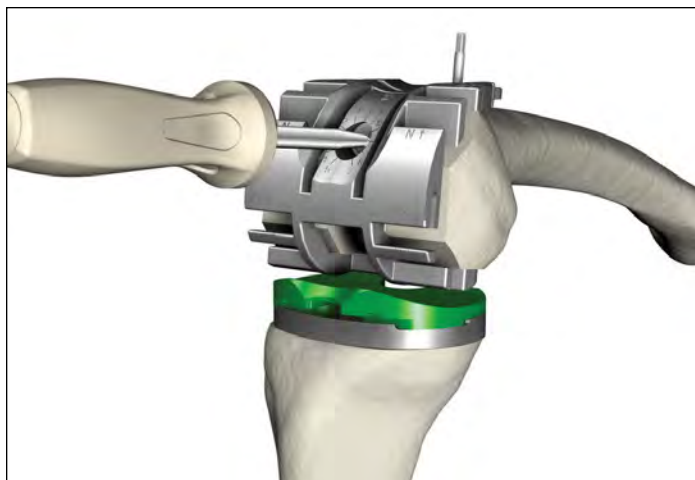

Figure 61
- To adjust the offset, insert the Hex Driver into the distal face of the Offset Adapter and rotate. After final offset position has been determined, tighten the anterior set screw to secure the offset position on the TCG (**Figure 61**). Record the final position of the offset by reading the location of the scribe mark on the Offset Adapter relative to the clock face on the TCG. The clock recording will be required when assembling the implant.
- One or more Headed Fixation Pins should then be placed in the TCG's anterior pin holes on the medial side (**Figure 61**). If the anterior flange is not flush with the femur, choose an Offset Adapter at least as large as the gap between the flange and the femur.